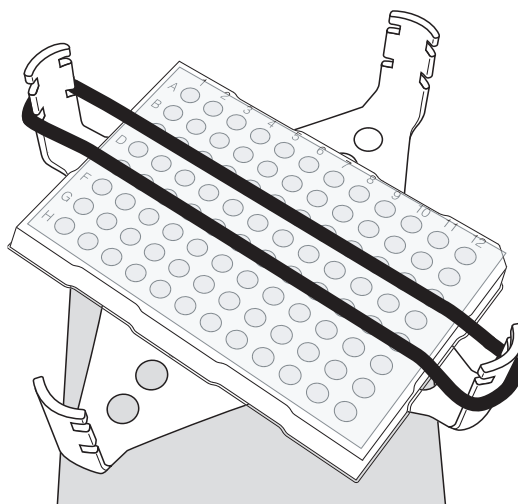

Figure 2 Elastic band position for 96-well plates with the recessed platform adapter
- For 96-well plates, see Figure 2 on page 48.